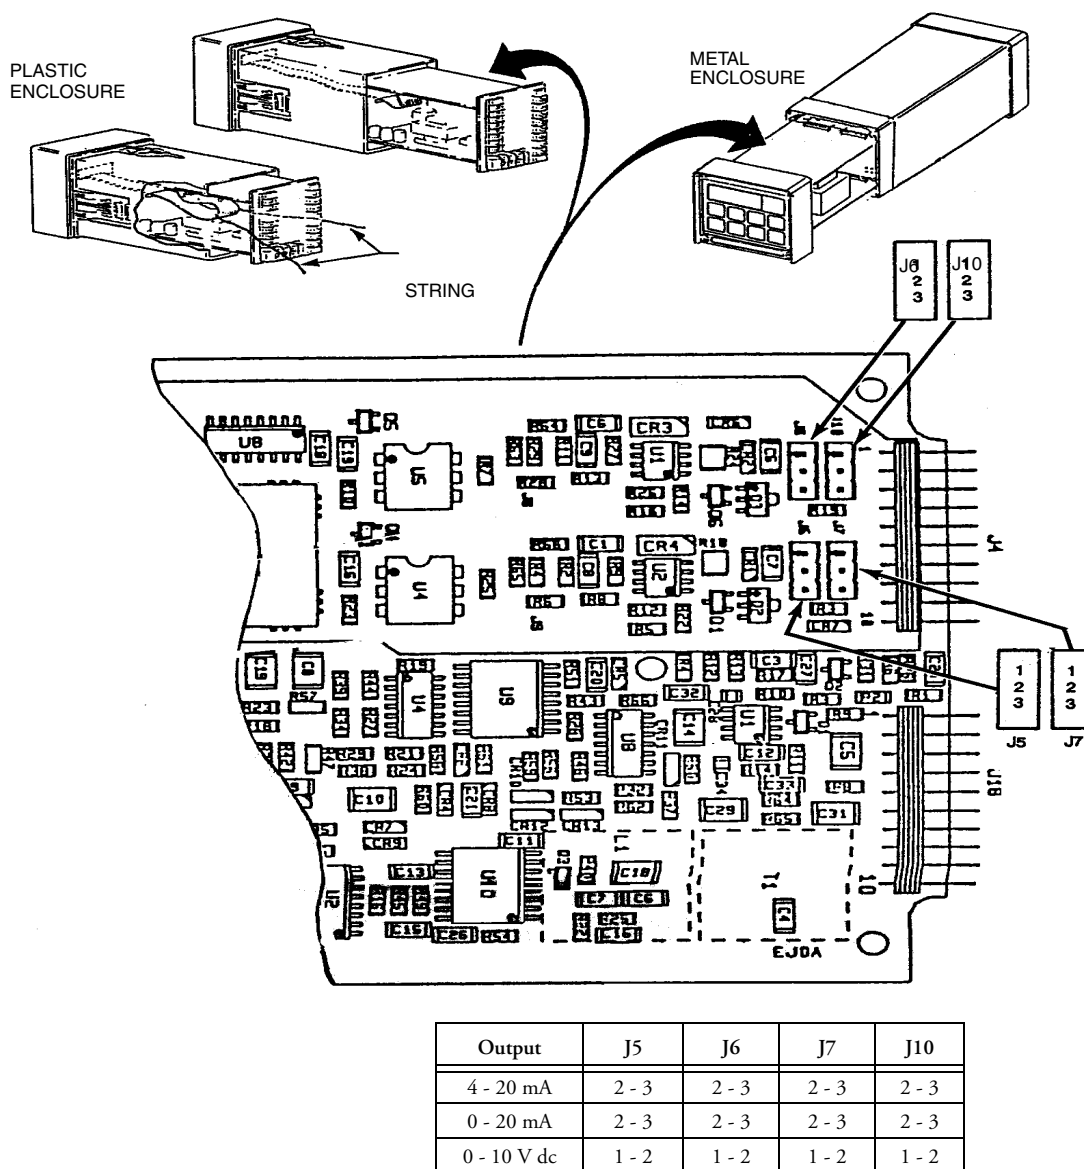

Figure 19. Jumpers for Changing Analog Output
4. Refer to Figure 19 to identify jumper locations.
On the plastic enclosure, a string must be rigged through the loop in the ribbon cable such that when the board assembly is slid into the housing, the string/ribbon cable may be pulled back simultaneously, thus preventing damage to the cable. See Figure 19.